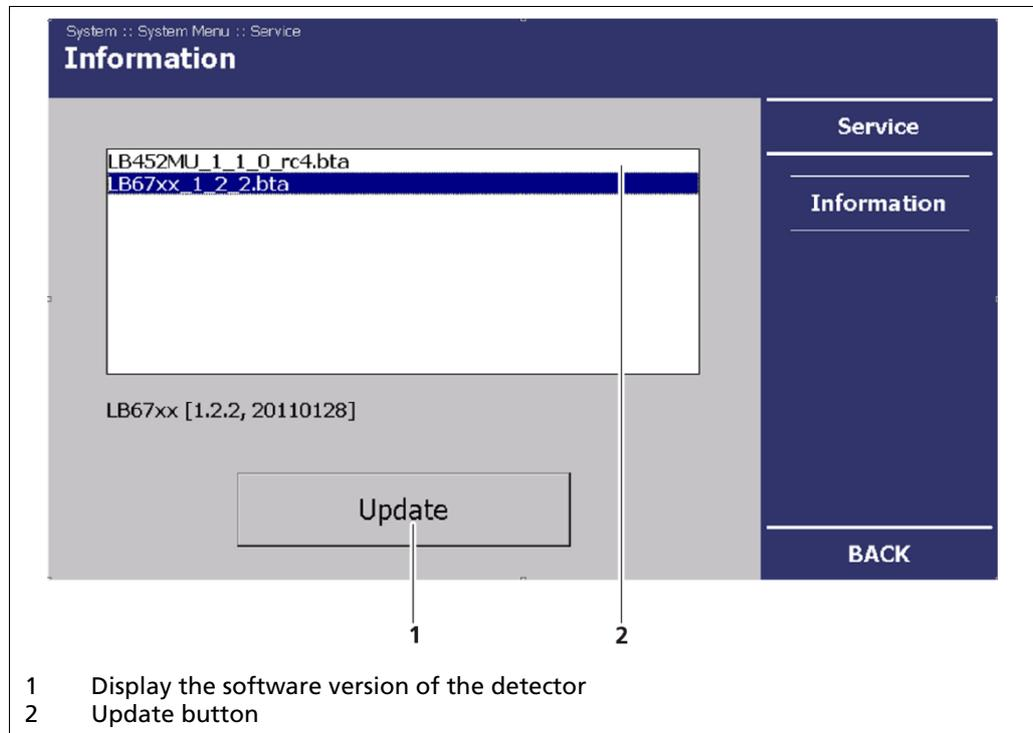

Fig. 46 System Menu, Service - Information (detector update)
3. Select the appropriate update file (Fig. 46, Item 2).